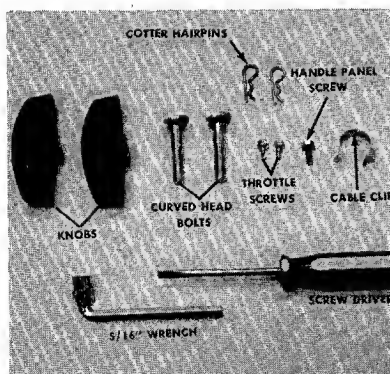

FIGURE 1. LOOSE HARDWARE AND TOOLS
1. Remove the loose hardware from the assembly pack. You will need a screw driver and a $\frac{5}{16}$ " wrench, either a socket as shown in figure 1 or an open end wrench.